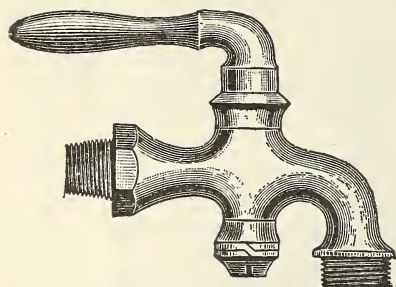

FIGURE 21.—A ground-key faucet
*General description*.—The ground-key type has a tapered cylindrical brass plunger or plug which should fit snugly into a sleeve, bored vertically through the body of the faucet. (See fig. 21.) The plunger is rotated by a handle. It has a hole or slot bored horizontally through it, to coincide with a similarly shaped horizontal opening in the body of the faucet. When the handle that rotates the plunger is parallel to the body of the faucet, these two openings are in line with each other and allow the water to pass through. A short turn of the handle to the right or left throws the openings out of line and cuts off the flow.